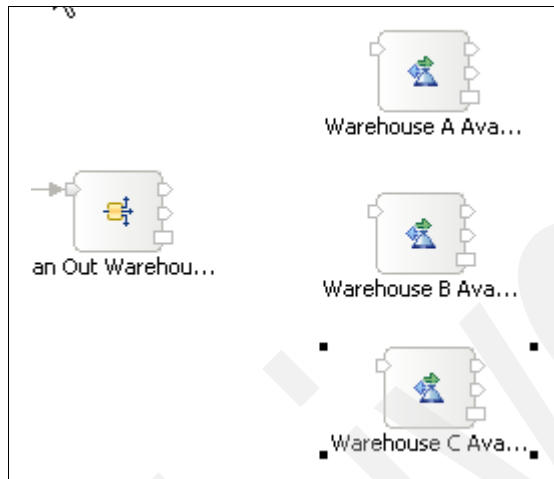

Figure 6-47 Warehouse Availability Systems invocation
5. Drag two more Service Invoke primitives to the right of the Fan Out Warehouse Web Services (center and bottom position). Bind them respectively to WarehouseAvailabilityIFPartner1 and WarehouseAvailabilityIFPartner2. Name them, respectively, Warehouse B Availability and Warehouse C Availability as shown in Figure 6-47.